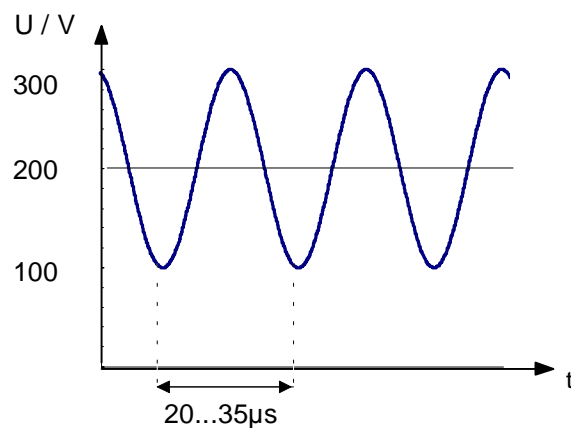

Fig. 4: Typical load diagram of C4
Capacitor C3 is a snubber capacitor used to protect the switching device. The voltage waveform is trapezoidal (Fig. 4) and the responding dV/dt is very high, worst case with more than $1000V/\mu s$. Due to the high load it has to be checked if a polyester lead space (LS) 5 capacitor is able to withstand, or if a polypropylene capacitor is mandatory.